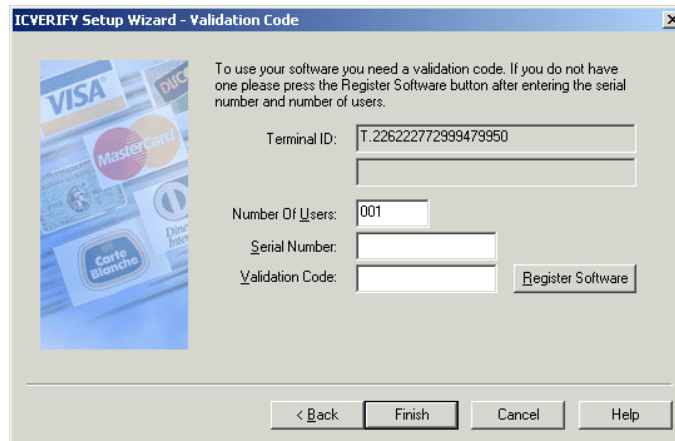

Figure 3.1.5-2: Serial Number & Validation Code
24. Left-click “Next” to proceed to the “Validation Code” window (see **Figure 3.1.5-2** below).